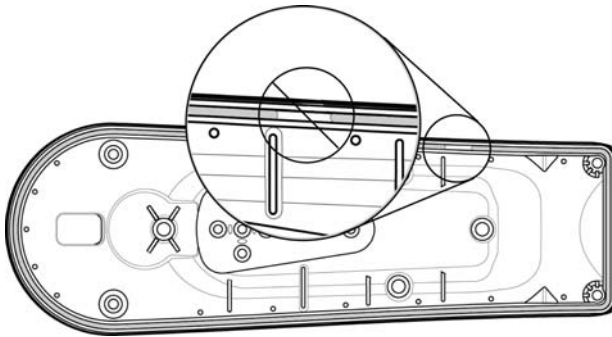

Figure 9-5: Apply Bead of RTV Silicone Sealant
3. Install a 14-gauge (0.64in. / 1.6mm) tip on RTV tube and lay a smooth, continuous bead of sealant over entire top of gasket, leaving no gaps over entire perimeter. See Figure 9-5.